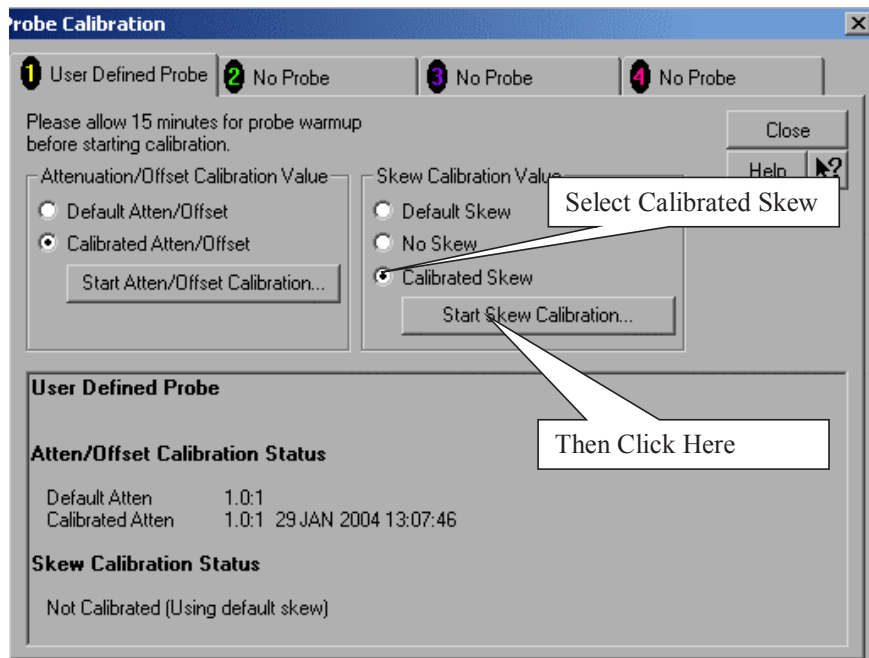

Figure 117 Probe Calibration Window.
- 8 Referring to Figure 117 below, perform the following steps: